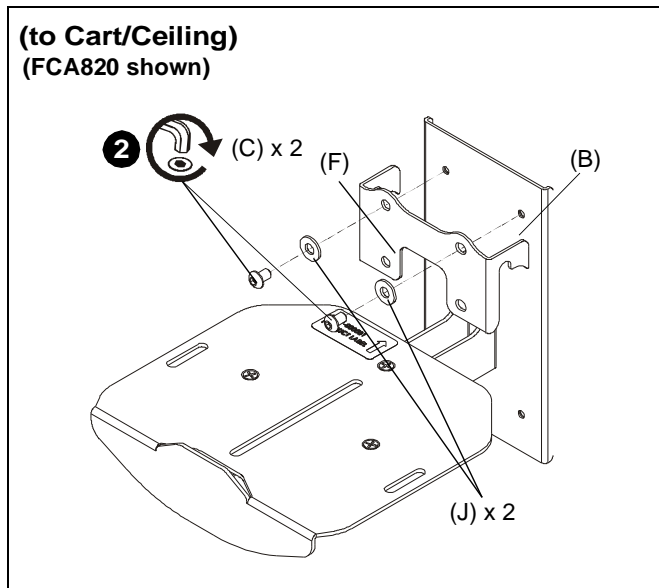

Figure 2
2. Use two 1/4-20 x 3/8" button head cap screws (C) and two 1/4" washers (J) to attach one center holder (F) to center plate (B). (See Figure 2)